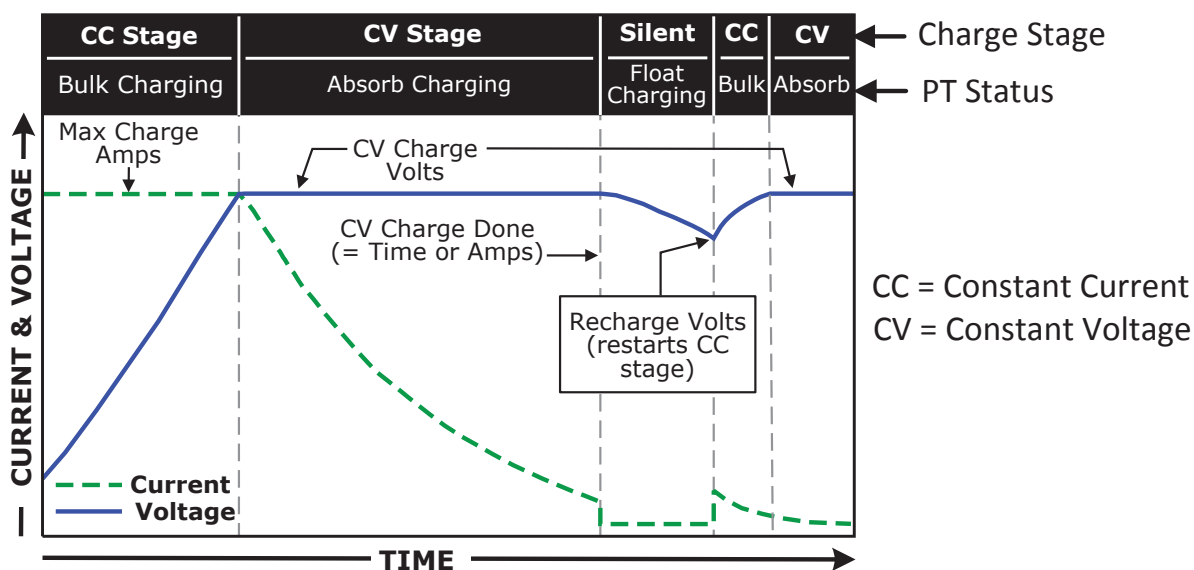

Figure 10-1, CV Charge Done Time/Amps (PT Controller)
■ **Set CV Chg Done** – These selections determine when the Constant Voltage stage of charging (displayed as “Absorb Charging”) is finished. If using the *Hold CV Chg VDC* setting, the battery voltage is held at the *Set CV Charge Volts* setting. If using the *CV Chg Done Time* or *CV Chg Done Amps* selections, once the Constant Voltage charge stage is finished, it transitions to a Silent charge stage (displayed as “Float Charging”). After entering the Silent charge stage, the charger automatically stops charging, but is still actively monitoring the battery voltage. The charger will remain “Silent” until the battery voltage drops to the *Set Recharge Volts* setting, at which time the charger will start another Constant Current/Constant Voltage charge cycle (see Figure 10-1).